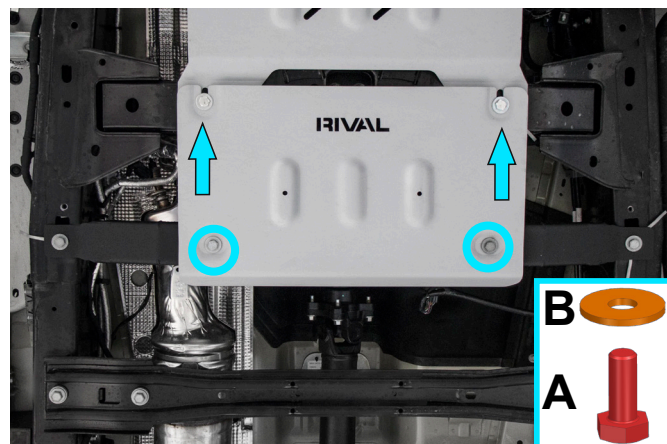

Fig. 7
5. Put transfer case skid plate (item 1) on installed bolts M10x30 and washers 10 from step 4. Fix the rear part of skid plate to mount bracket, using bolts M10x30 (item A) and washers 10 (item B), as shown in fig.7.